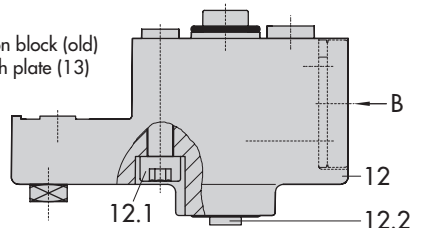

Fig. 4 · Direct attachment – Signal pressure connection for Type 3277 Actuator with 240, 350 and 700 cm²
1. Place follower clamp (3) on the actuator stem, align and screw tight so that the mounting screw is located in the groove of the actuator stem.
2. Mount cover plate (10) with narrow side of the cut-out opening (Fig. 4, on the left) pointing towards the signal pressure connection. Make sure that the bonded gasket (14) points towards the actuator yoke.
3. For actuators with 700 cm², remove the follower pin (2) at lever **M** (1) on the back of the positioner from pin position **35**, reposition it in the bore for pin position **50** and screw tight.
6. Make sure that the tip of the gasket (16) projecting from the side of the connection block (12) is positioned above the actuator symbol that corresponds with the actuator with fail-safe action "Actuator stem extends" or "Actuator stem retracts." If necessary, remove the three fixing screws and the cover. Then reposition the gasket (16) turned by 180°. The previous version of the connection block (Fig. 4, bottom) requires the switch plate (13) to be turned such that the corresponding actuator symbol points to the marking.
7. Place the connection block (12) with the associated seal rings against the positioner and the actuator yoke. Screw it tight using the fixing screw (12.1). For actuators with fail-safe action "Actuator stem retracts", additionally remove the stopper (12.2) and fit on the external signal pressure piping.
8. Mount cover (11) on the other side. Make sure that the vent plug points downwards when the control valve is installed to allow any condensed water that collects to drain off.